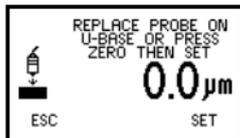

Figure 32. Zero the display
3. Press **ZERO** softkey to zero the display (Figure 32).